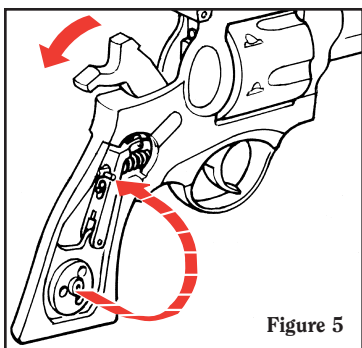

Figure 5
3. Cock the hammer. Insert disassembly pin about one half its length into the hole at the rear of the mainspring strut. (The disassembly pin is carried in the hole in the grip panel locator). Lacking a disassembly pin, any similar instrument will serve (See Figure 5).